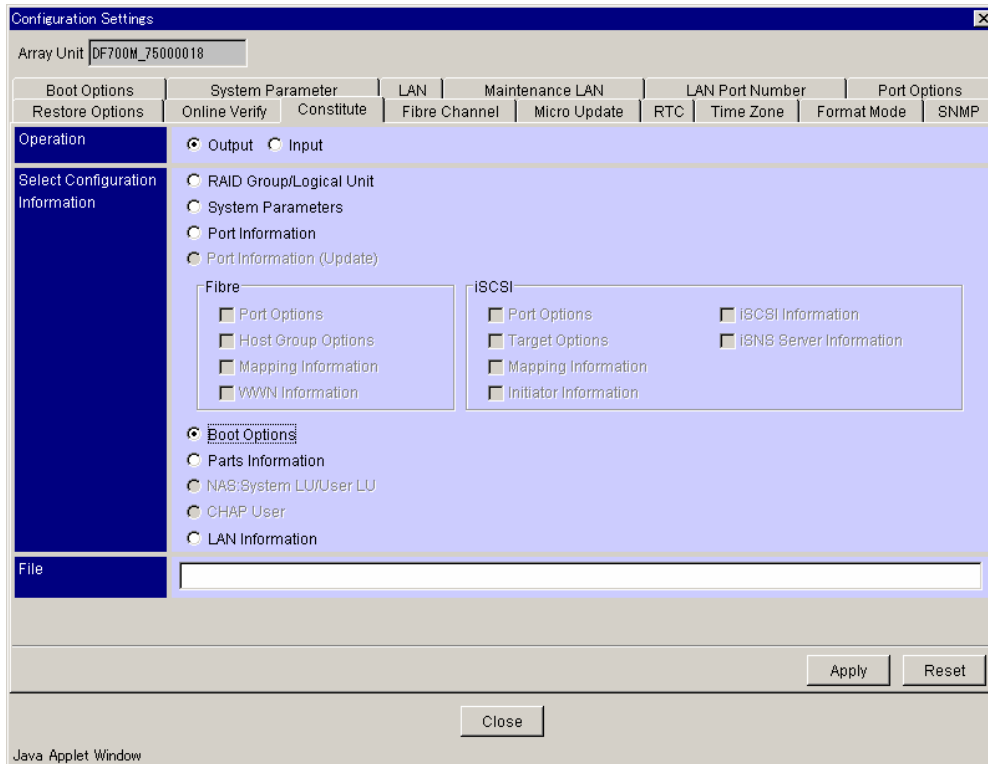

Figure 9.27 Configuration Settings – Boot options (output)
2. Click the **Constitute** tab. See Figure 9.27.